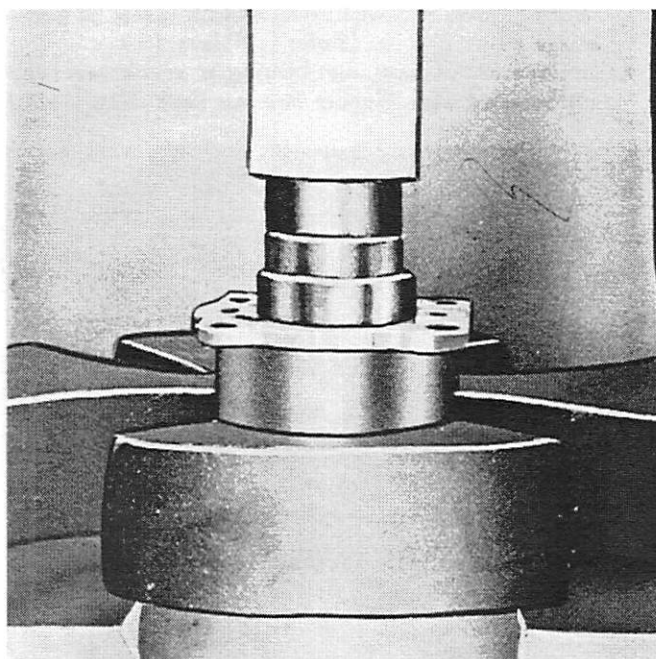

Figure 12. Installing Sealed Ball Bearing in Top of End Cap
5. Replace sealed ball bearing in crankcase bearing housing with large end of Needle Bearing Drift (91-24739), pressing down with arbor press to seat. (Figure 12)